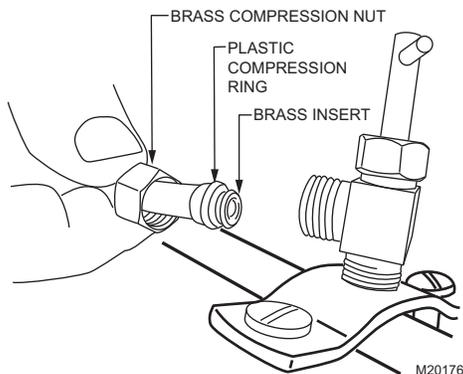

Fig. 35. Connecting plastic water line.
1. Place Brass Compression Nut over Plastic Water Tubing. See Fig. 35.